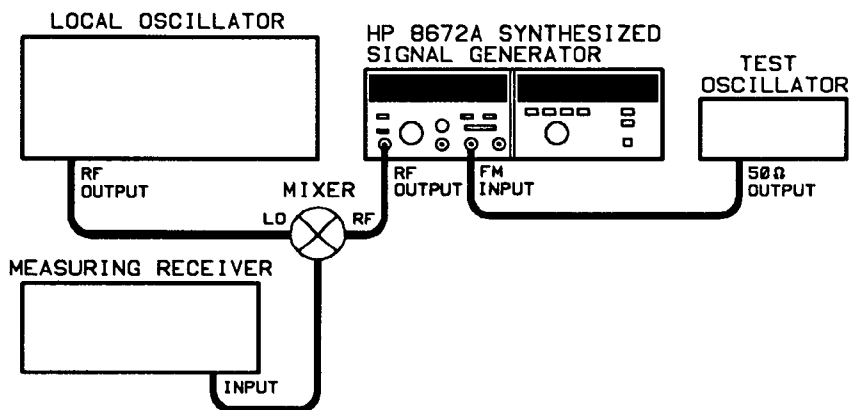

Figure 5-20. FM Adjustments Test Setup
**Procedure** 1. Connect the equipment as shown in Figure 5-20.